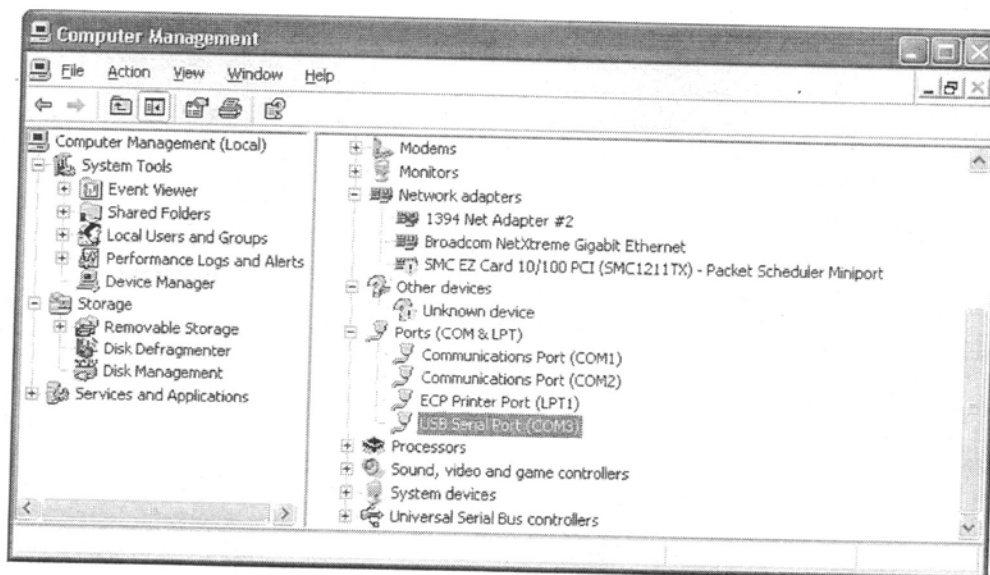

Figure 1. Use the Device Manager to find the interface's COM port number.
2. Select Device Manager in the left-hand pane, and expand the “Ports” item in the right-hand pane, as shown in Figure 1. The entry for “USB Serial Port” will indicate the COM port for the interface.